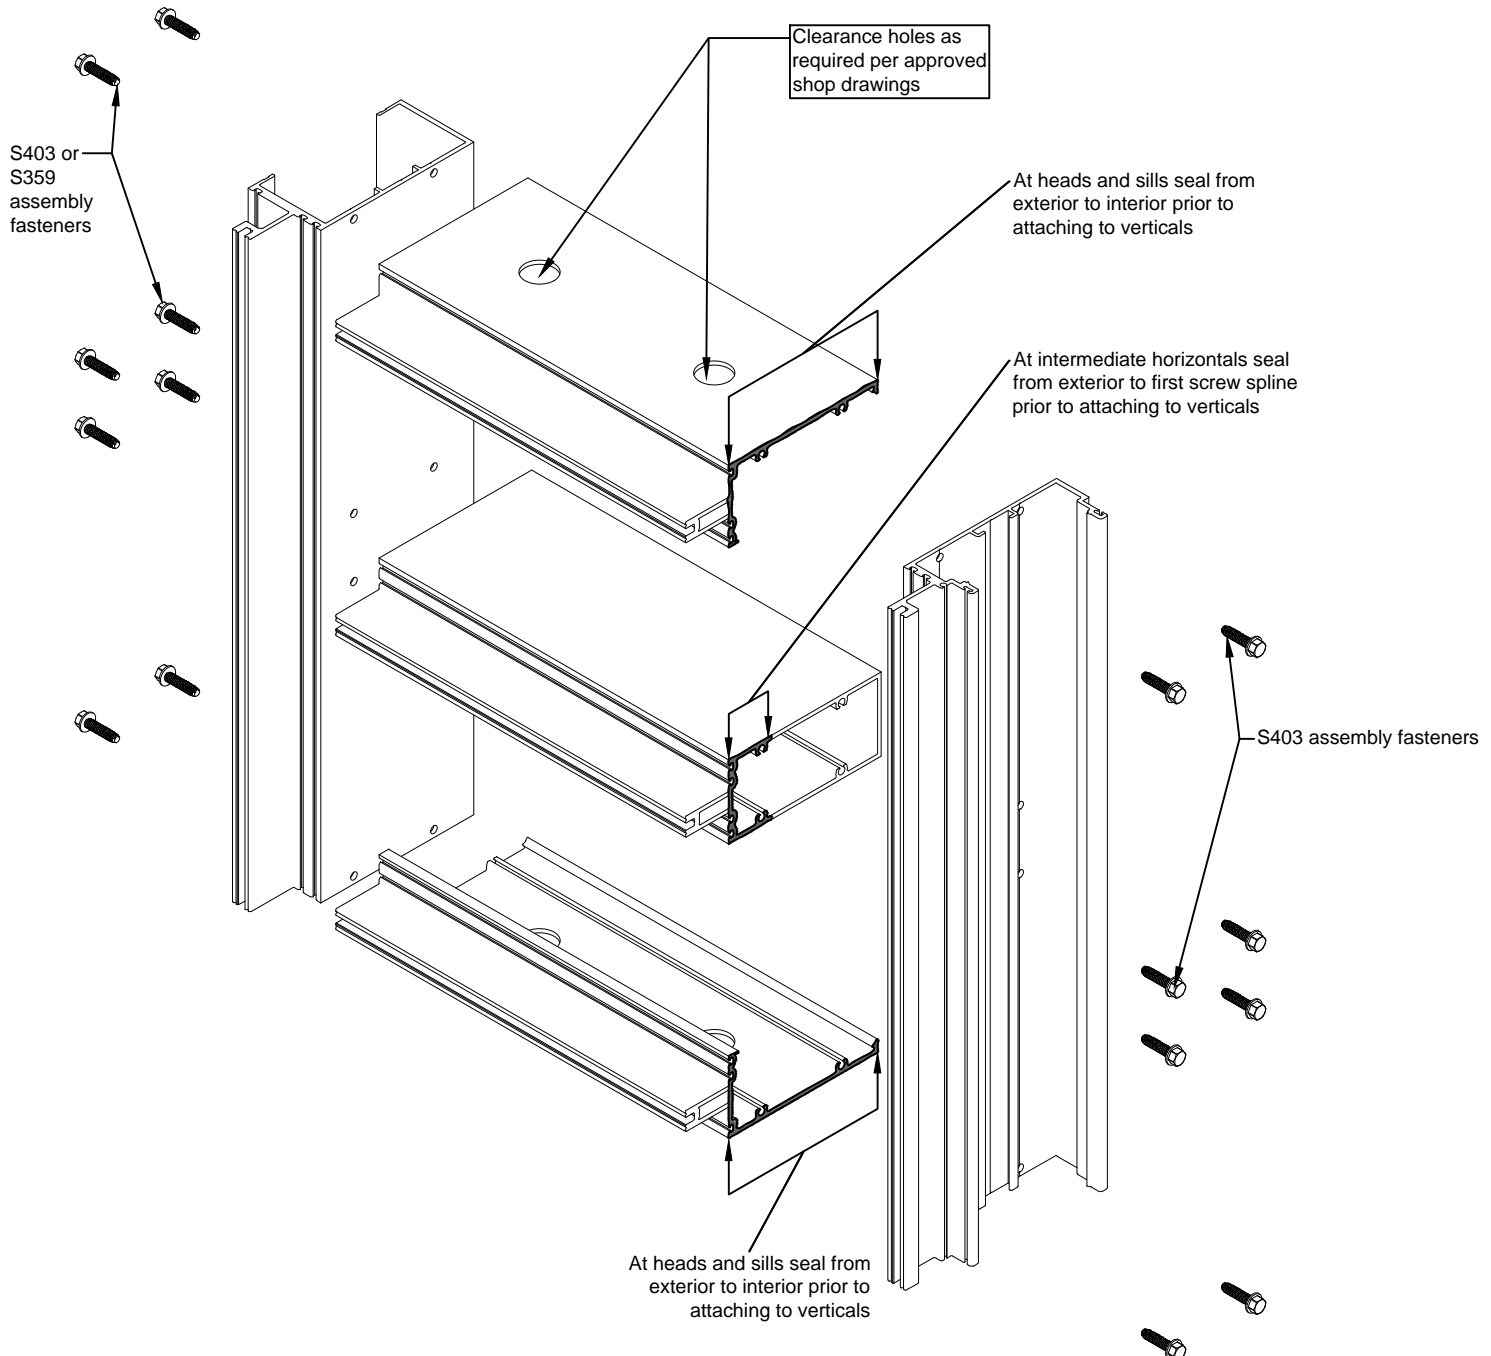

Fig. 37.1
- B. De-bur and clean the ends of all horizontals with IPA to ensure a tight joint with good sealant adhesion. Seal ends of horizontal prior to attaching to the verticals. See Fig. 37.1 for sealant locations.